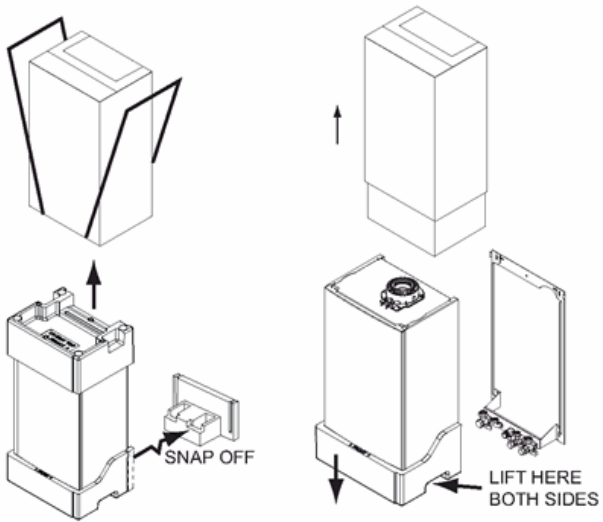

Fig. 17
2. Follow the procedure on the carton to unpack the boiler or see Fig. 17.